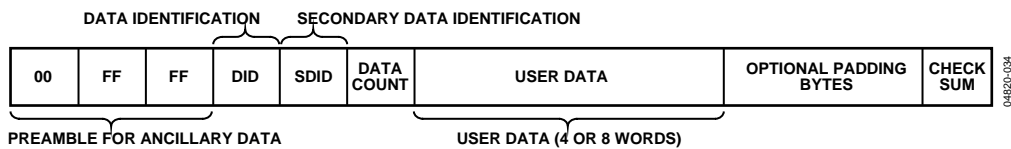

Figure 34. Gemstar and CCAP Embedded Data Packet (Generic)
- GDECAD configures the way in which data is embedded in the video data stream. The recovered data is not available through I²C, but is inserted into the horizontal blanking period of an ITU-R. BT656-compatible data stream. The data format is intended to comply with the recommendation by the International Telecommunications Union, ITU-R BT.1364. See Figure 34. For more information, see the ITU website at www.itu.ch.
Each data packet starts immediately after the EAV code of the preceding line. See Figure 34 and Table 149, which show the overall structure of the data packet.